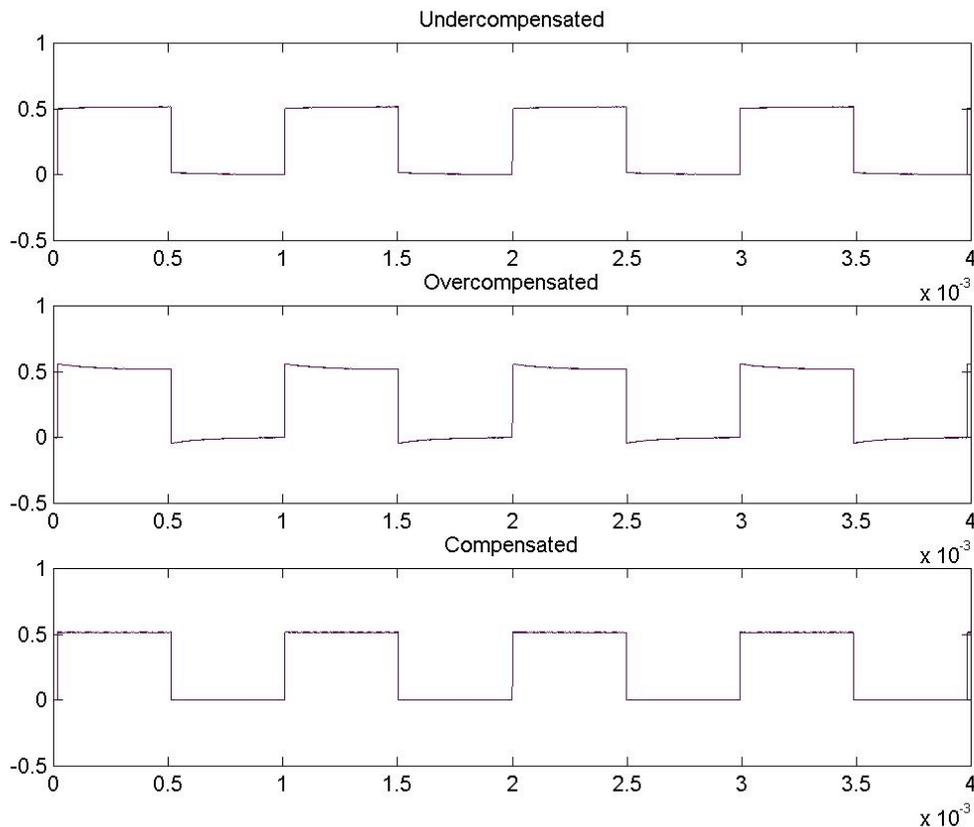

Figure 4. Under, Over and Correct Probe Compensation
4. Press the AUTOSSET button. You should see a square wave similar to the one in Figure 4.